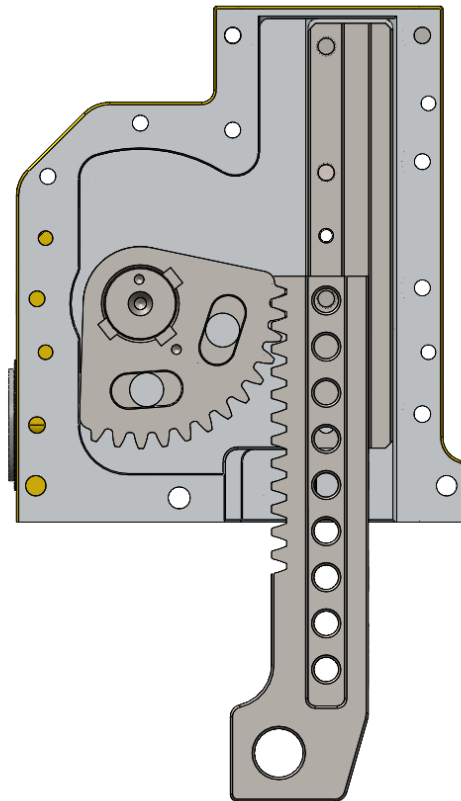

Figure 11
- g. Turn the pinion clockwise until the limit of the block, fit the gear rack so that the first tooth of the gear rack (1-4/4) overlaps the first tooth of the pinion, according to the Figure 11.